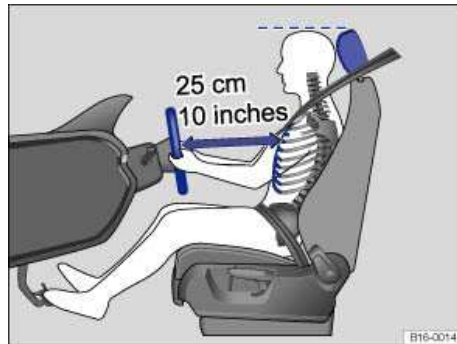
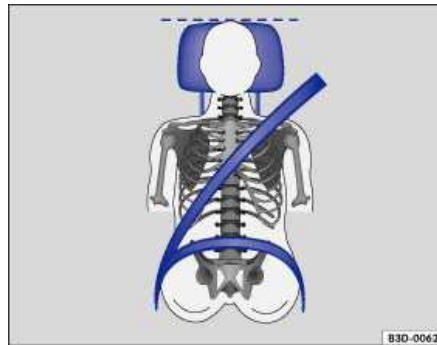

Fig. 38 The driver should never sit closer than 10 inches (25 cm) of the steering wheel.
Fig. 39 Proper safety belt positioning and head restraint adjustment.
- Adjust head restraints so that the upper edge of the head restraint is at least at eye level or higher. Position the back of your head as close as possible to the head restraint ⇒ fig. 38 and ⇒ fig. 39.
- Adjust the steering wheel so that there are at least 10 inches (25 cm) between the steering wheel and your breast bone ⇒ fig. 38. When adjusting the proper distance to the steering wheel, grasp the top of the steering wheel with your elbows slightly bent.